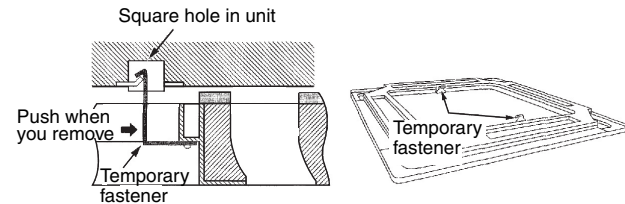

Fig. 3-20-1
- (1) Insert the temporary fasteners (stainless steel) on the inside of the ceiling panel into the square holes on the unit to temporarily fasten the ceiling panel in place. (Fig. 3-20-1)
- To remove the ceiling panel, support the ceiling panel while pressing the temporary fasteners toward the outside. (Fig. 3-20-1)
- (2) Align the panel installation holes and the unit screw holes.